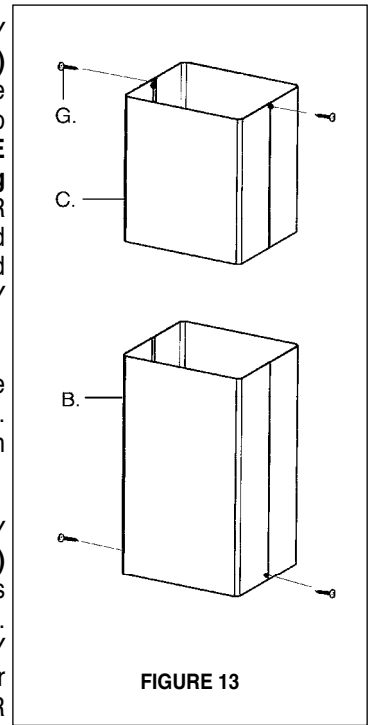

FIGURE 13
1. The UPPER CHIMNEY COVER (**C in FIGURE 13**) attaches to the top of the support structure using two screws provided (**G in FIGURE 13**). If using the **High Ceiling Chimney Kit**, use the UPPER CHIMNEY COVER supplied with the kit. Slide up and attach the UPPER CHIMNEY COVER.
3. The LOWER CHIMNEY COVER (**B in FIGURE 13**) attaches using two screws provided (**G in FIGURE 13**). Install the LOWER CHIMNEY COVER by sliding it up over the support and the UPPER CHIMNEY COVER.